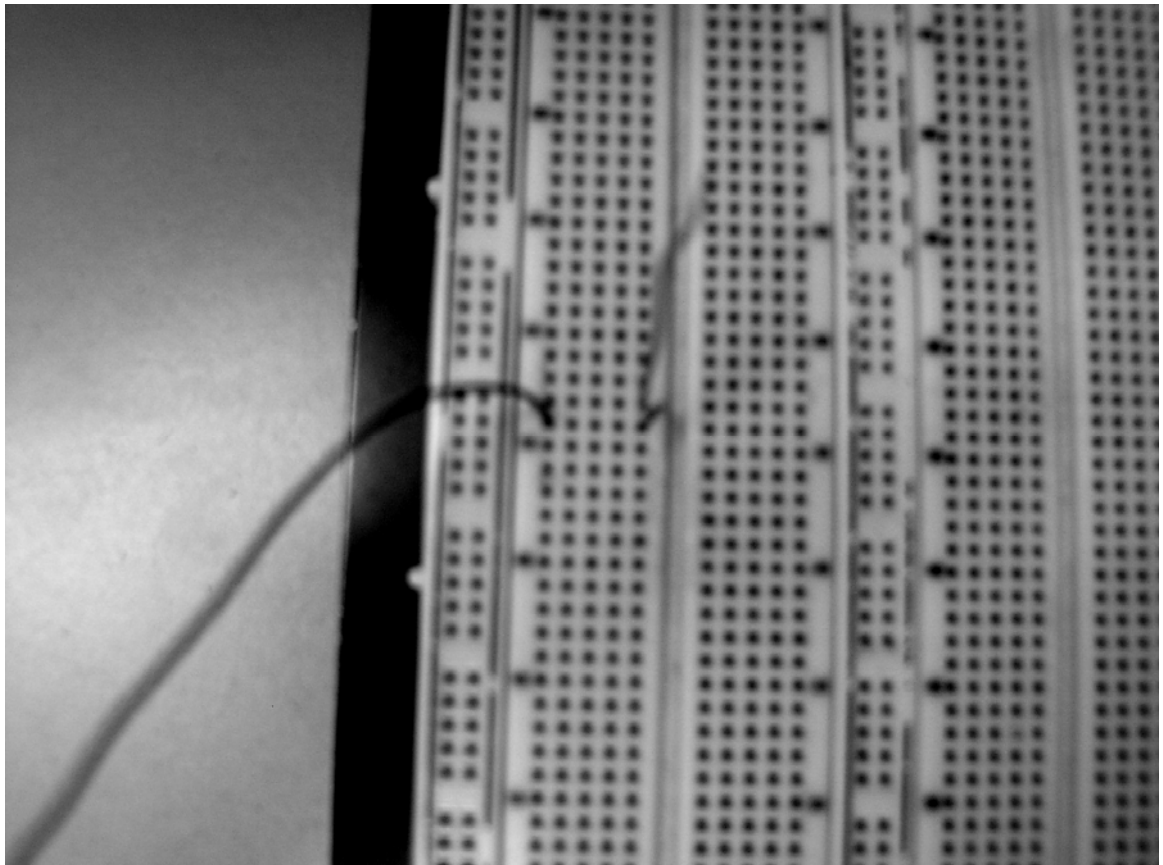

Figure 13
- a. Stick two wires into the breadboard as shown in figure 13. You may need to strip them using the wirestrippers on your workbench. Use the continuity tester in the multimeter to determine if the two wires are connected.